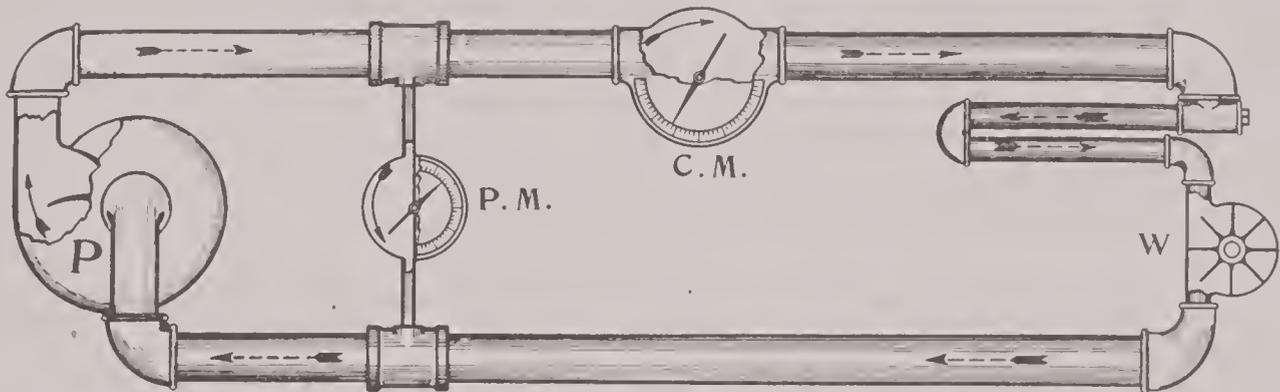
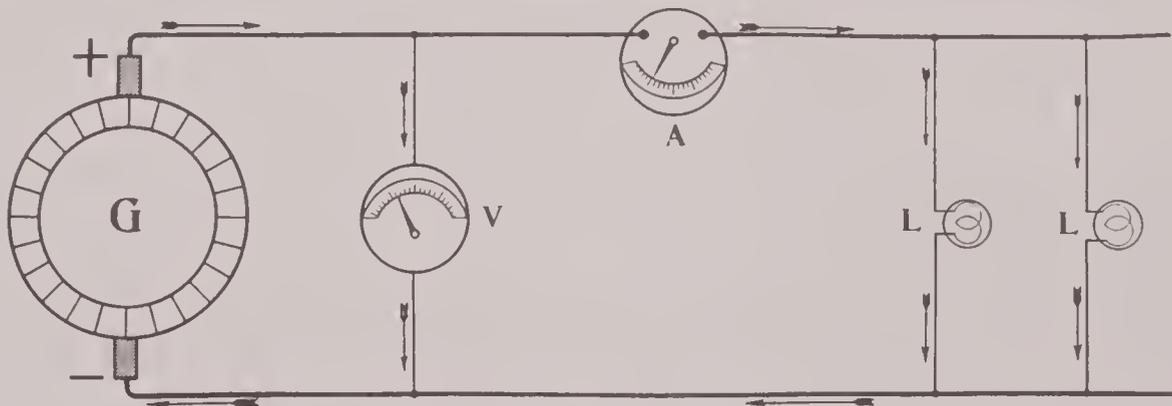

FIG. 213
FIG. 214
Fig. 214 illustrates a simple electric circuit. The electromotive force is supplied in this circuit by a generator. The lamps are connected to the generator by copper wires, which are represented by heavy lines. The generator, when running, forces electricity through the lamps.
The hydraulic circuit in Fig. 213 is analogous to the electric circuit in Fig. 214. The centrifugal pump, pipes, and pipe coil correspond respectively to the generator, wires, and lamps. The pipes and pump are assumed to be filled with water. When the pump is driven, it draws the water out of the lower pipe and crowds it into the upper pipe. This results in a difference in pressure being produced
between the pipes. This difference in pressure in the hydraulic circuit corresponds to the difference in electrical pressure produced in the electric circuit by the generator. The higher pressure in the upper pipe causes the water to flow through the pipe coil from the upper pipe to the lower pipe. The water flowing through the hydraulic circuit corresponds to the electricity flowing through the electric circuit. The meter (P. M.) connected between the pipes measures the difference between the pressures in the two pipes. This meter corresponds to the voltmeter (V) in the electric circuit, Fig. 214. The meter (C. M.) in the upper pipe of the hydraulic circuit measures the rate at